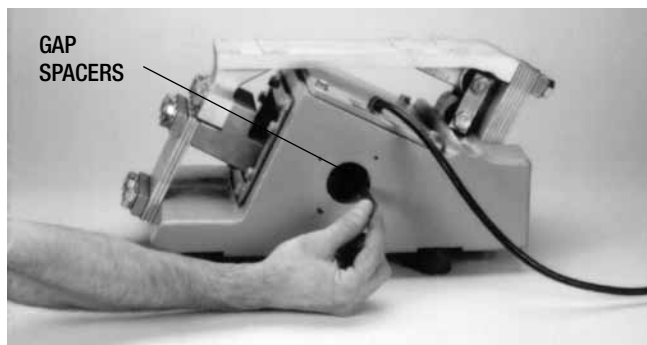

FIGURE 4
Refer to the Parts List Drawing and Figs. 4, 5, 6 & 7
1. Remove both nameplates and insert the two gap spacers (furnished with the unit) between the E-frame center leg and the two armature pole pieces (see Figure 4 & 5).
Refer to the Parts List Drawing and Figs. 4, 5, 6 & 7.